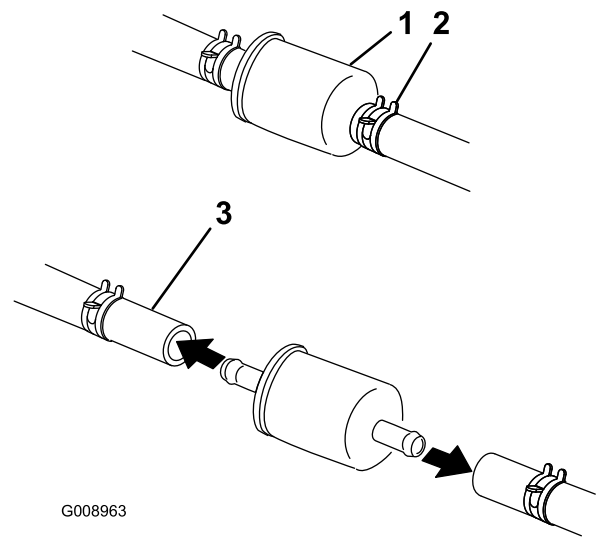

Figure 56
5. Close the fuel-shutoff valve under the seat (Figure 56).
6. Squeeze the ends of the hose clamps together and slide them away from the filter (Figure 56).
8. Install a new filter and move the hose clamps close to the filter (Figure 56).